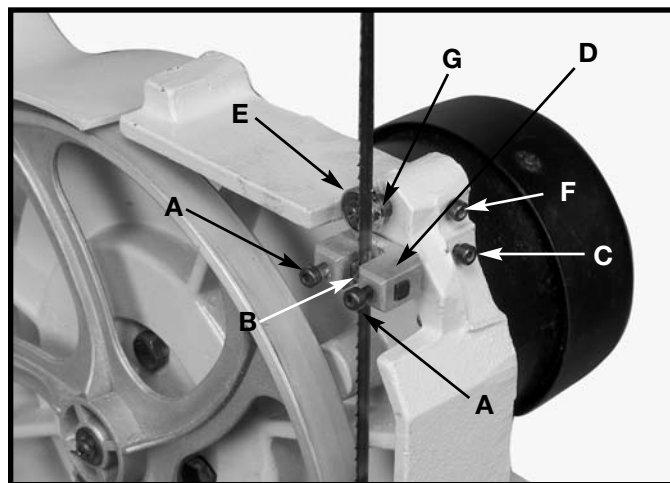
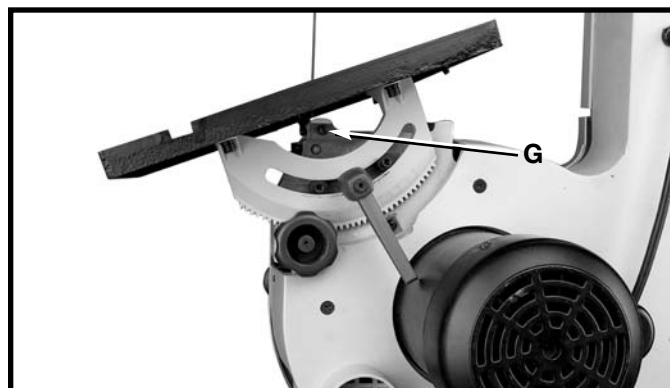

Fig. 29
Fig. 30
1. Loosen two screws (A) Fig. 29, and move guides (B) as close as possible to the sides of the blade. Be careful not to pinch the blade. Tighten the two screws (A). **NOTE:** In Fig. 29, the table has been removed for clarity.
2. The front edge of the blade guides (B) Fig. 29 should be adjusted so they are just behind the “gullets” of the blade teeth. Loosen screw (C), and move the assembly (D) in or out as necessary. Tighten screw (C).
3. The lower blade support thrust bearing (E) Fig. 29 prevents the saw blade from being pushed back too far during cutting. The support bearing should be adjusted approximately 1/32" behind the blade. Loosen screw (F) Fig. 29, and move the bearing shaft (G) in or out as necessary. Tighten screw (F).
4. The lower blade support bearing (E) Fig. 29 should also be adjusted so that the blade overlaps the outside diameter of the ball bearing by approximately 1/8". The blade support bearing (E) is set on an eccentric shaft. To change the position of the bearing (E), loosen the screw (F) Fig. 29 and rotate the shaft (G) Fig 30 until the blade properly overlaps the support bearing. Tighten screw (F) Fig. 29.